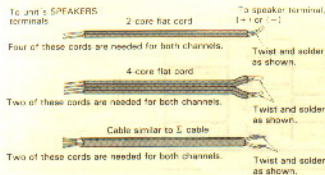

Fig. 2 Substitute Cords for Σ Cables
2. If the cables (supplied) are too short for your system, commercially available cables as shown in Fig. 2 can be used. Pay attention to polarities when using such cables. Keep the speaker cables as short as possible.